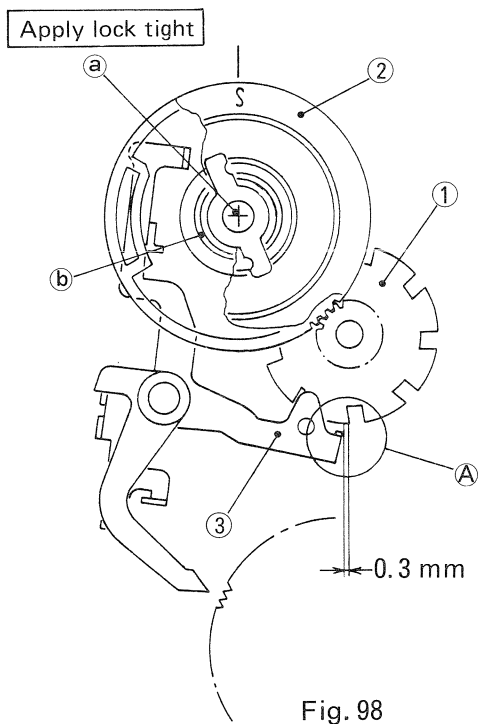

Fig. 98
2. Remove screw (a) and disengage both gears of the dividing plate (1) and film counter disk. (Fig. 98)
3. Engage exposure counter disk gear (2) with the dividing plate gear (1) as dividing lever (3) gets in position (A) with dividing plate (1).